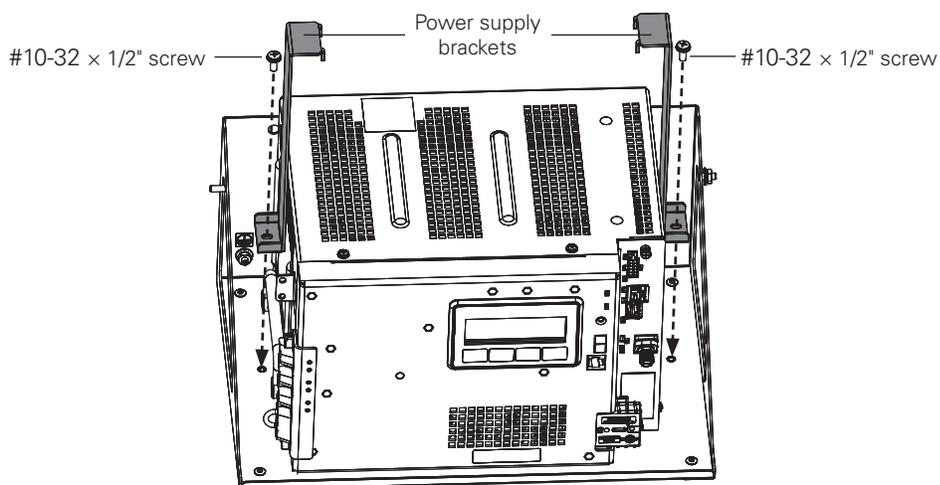

Fig. 20, Power Supply Bracket Installation - XM3.1-HP Power Supply Shelf
5. Install the XM3.1-HP™ power supply and place the brackets on either side, securing it in place with supplied #10-32 × 1/2" screws (Fig. 20).